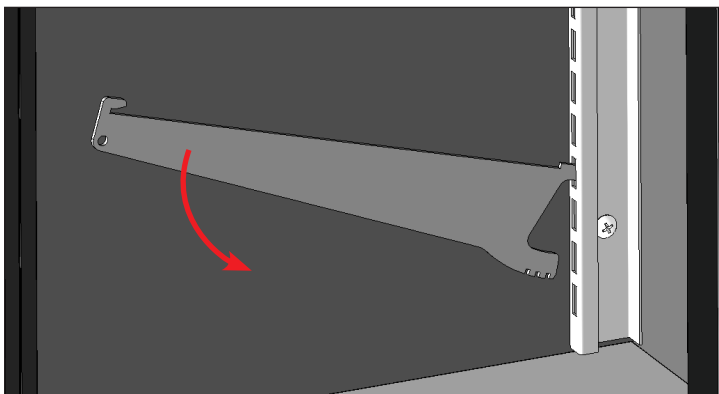

Fig. 7. Determine the appropriate adjustment slot.
3. Slide the angle adjustment tab into the shelf standard. Hook the appropriate notch into the shelf standard to support the shelf at the desired angle. See figs. 7 and 8.